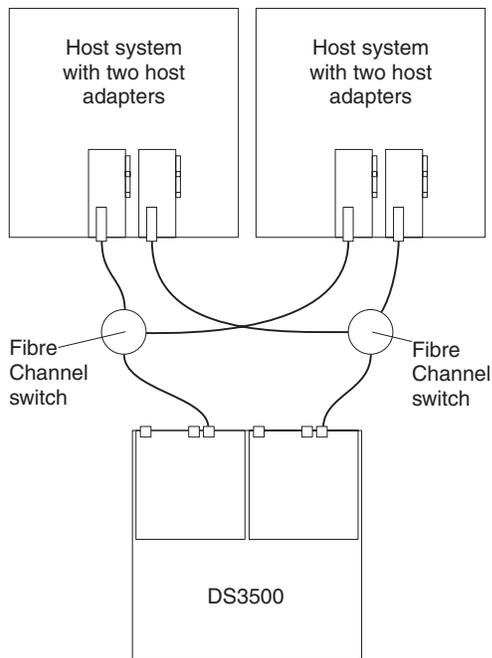

Figure 55. Example of a dual Fibre Channel SAN fabric configuration
- Dual SAN fabric configuration, as shown in Figure 55 on page 58
In Figure 55, the Fibre Channel switches are *not* connected together through an ISL. Each switch forms its own SAN fabric. This configuration is also the configuration to use for a dual-node cluster configuration.